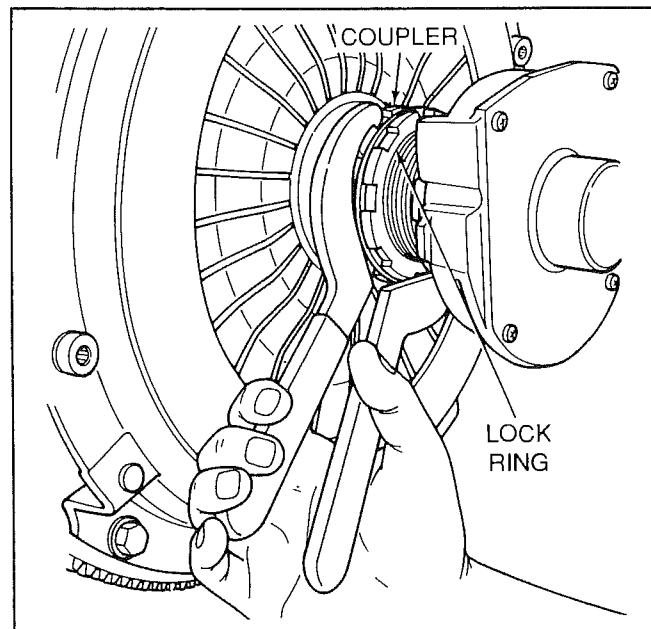

Figure 11-3. Tightening Locknut With Spanner Wrenches
6. Using two spanner wrenches, place one on the notches of the release bearing coupler and the other on the release bearing locknut. Use the first wrench to prevent the coupler from rotating while using the second wrench to tighten the locknut against the coupler as a jamnut. Final tightening can be done by placing the two wrenches in notches that will result in the two wrench handles diverging slightly from one another. Then both handles can be grasped with one hand and squeezed snugly together (Fig. 11-3).
4. Using two spanner wrenches, place one on the notches of the release bearing coupler and the other on the release bearing locknut. Use the first wrench to prevent the coupler from rotating while using the second wrench to tighten the locknut against the coupler as a jamnut. Final tightening can be done by placing the two wrenches in notches that will result in the two wrench handles diverging slightly from one another. Then both handles can be grasped with one hand and squeezed snugly together (Fig. 11-3).